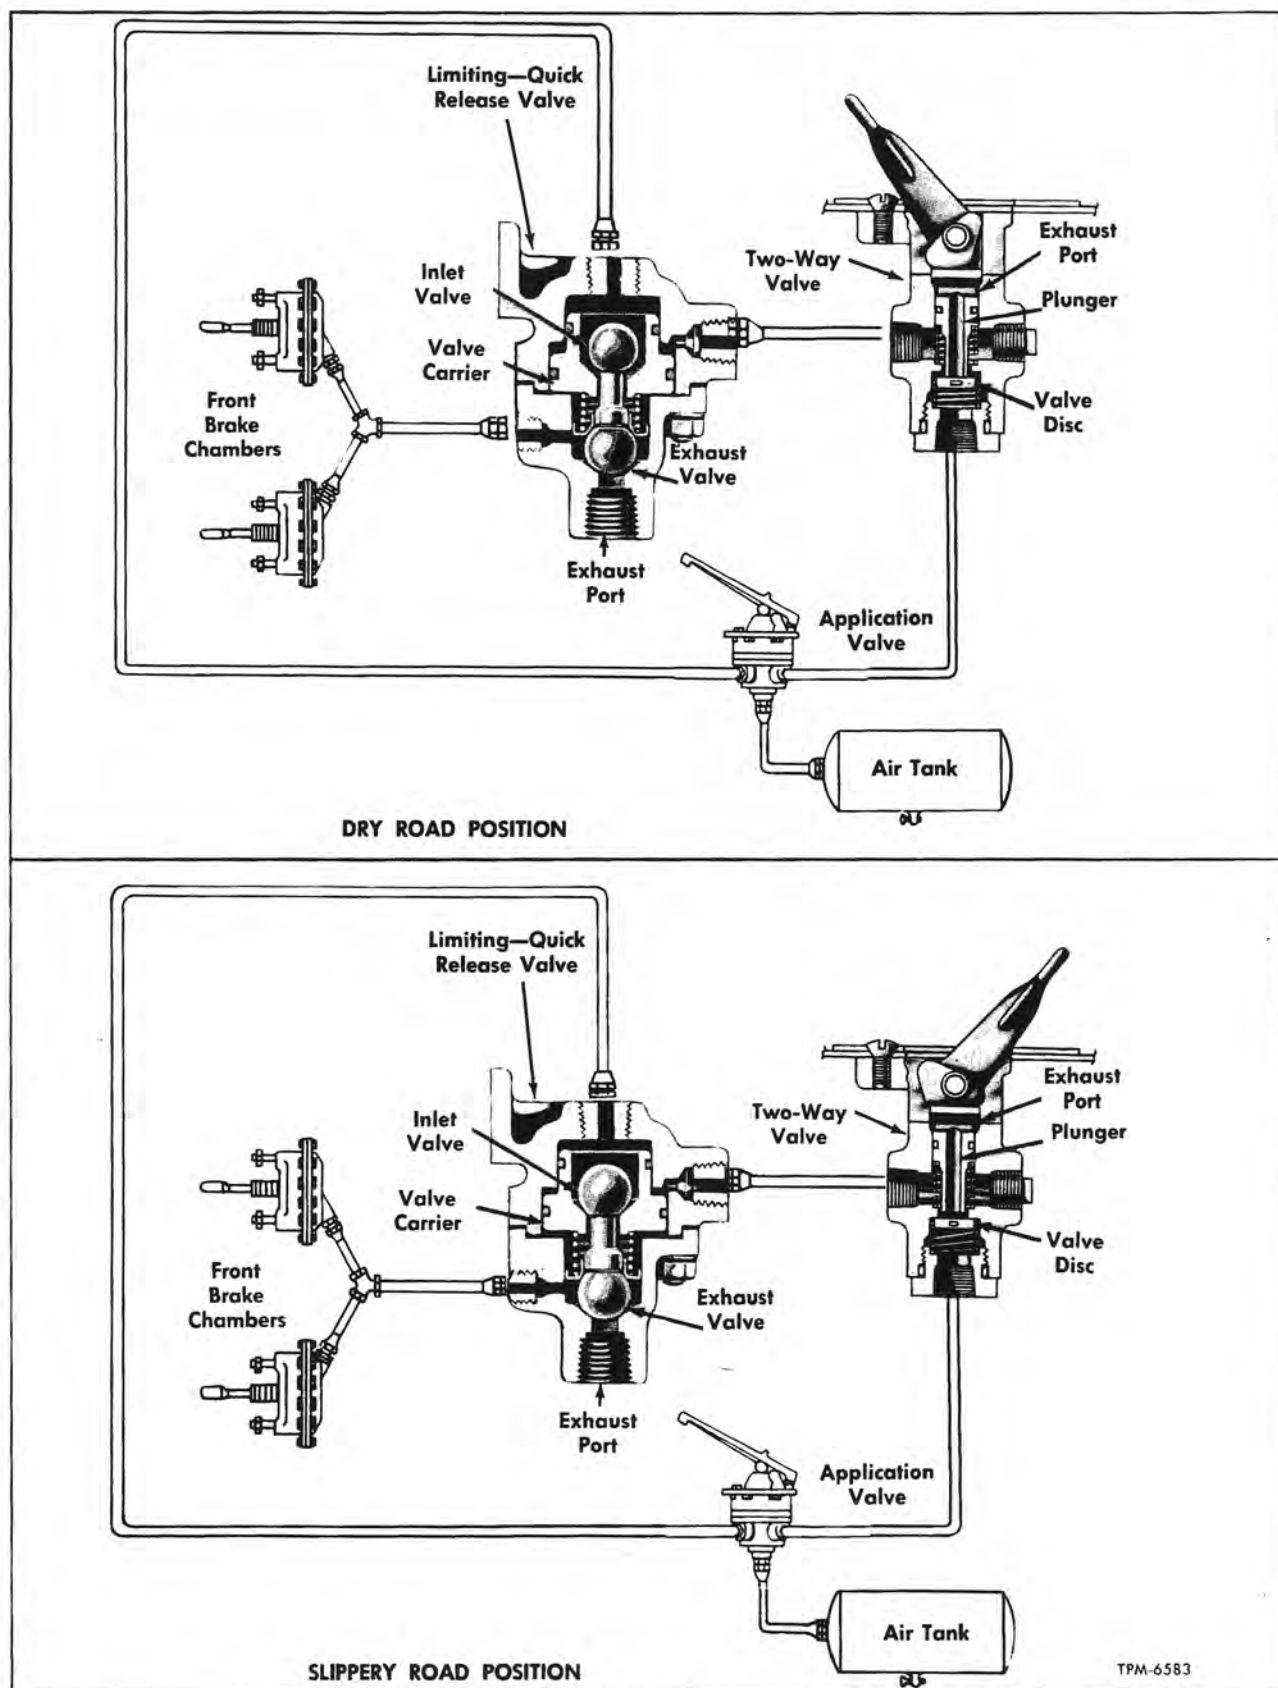
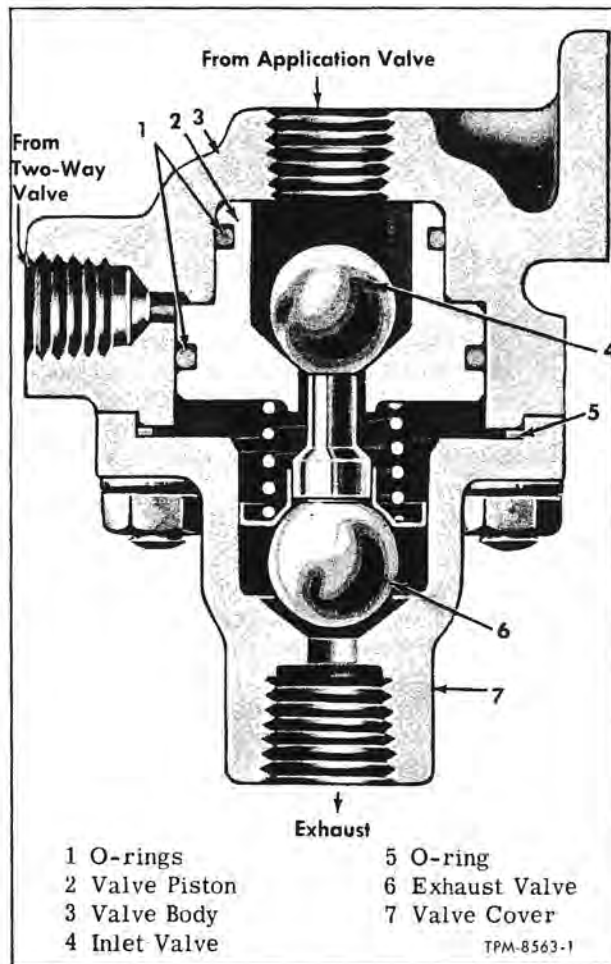
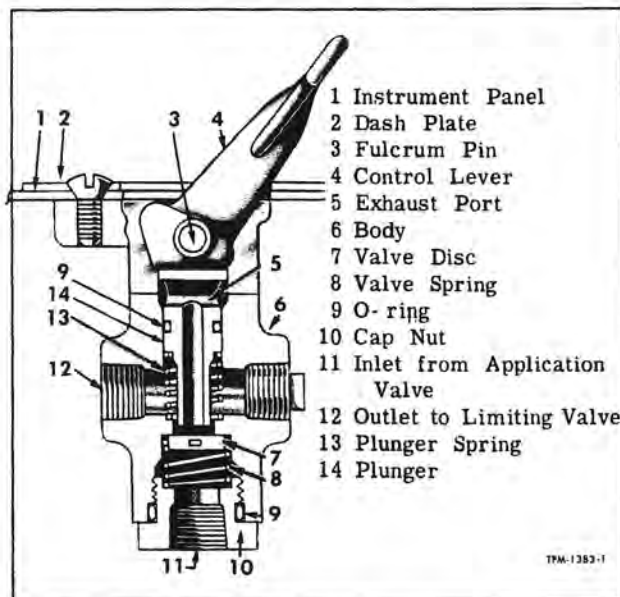

Figure 21—Front Brake Limiting and Two-Way Control Valve Operation
Figure 22—Front Brake Limiting and Quick Release Valve
Figure 23—Two-Way Control Valve (Also I.C.C. Valve)
A combination limiting and quick-release valve (fig. 22) and a two-way control valve (fig. 23) are used in combination as optional equipment on some coaches, as shown in figure 21. This combination delivers full air pressure to front brakes on dry roads, or at the option of the driver, limits front brake air pressure by half on slippery roads.
The two-way control valve is mounted at right side of seat within easy reach of the driver. The limiting quick-release valve is mounted beneath coach floor near front axle. One air line from brake application valve is connected to the inlet port of the two-way valve and another line connects to the brake valve port at top of limiting quick release valve (fig. 21). Another air line connects side delivery port of the control valve to port opposite the mounting pad of the limiting valve. The two other side ports of the limiting valve are connected to front brake chambers.
**AIR BRAKES****OPERATION****1. Dry Roads (Top View, Fig. 21)**
**2. Slippery Roads (Bottom View, Fig. 21)**
### LIMITING AND QUICK RELEASE VALVE OVERHAUL (Fig. 22)
### TWO-WAY CONTROL VALVE OVERHAUL (Fig. 23)
The I.C.C. valve and the two-way control valve shown in figure 23 are identical except for wording on dials. The following key numbers refer to figure 23. Valve is in "OFF" position, with plunger (14) raised and valve disc (7) against valve seat in